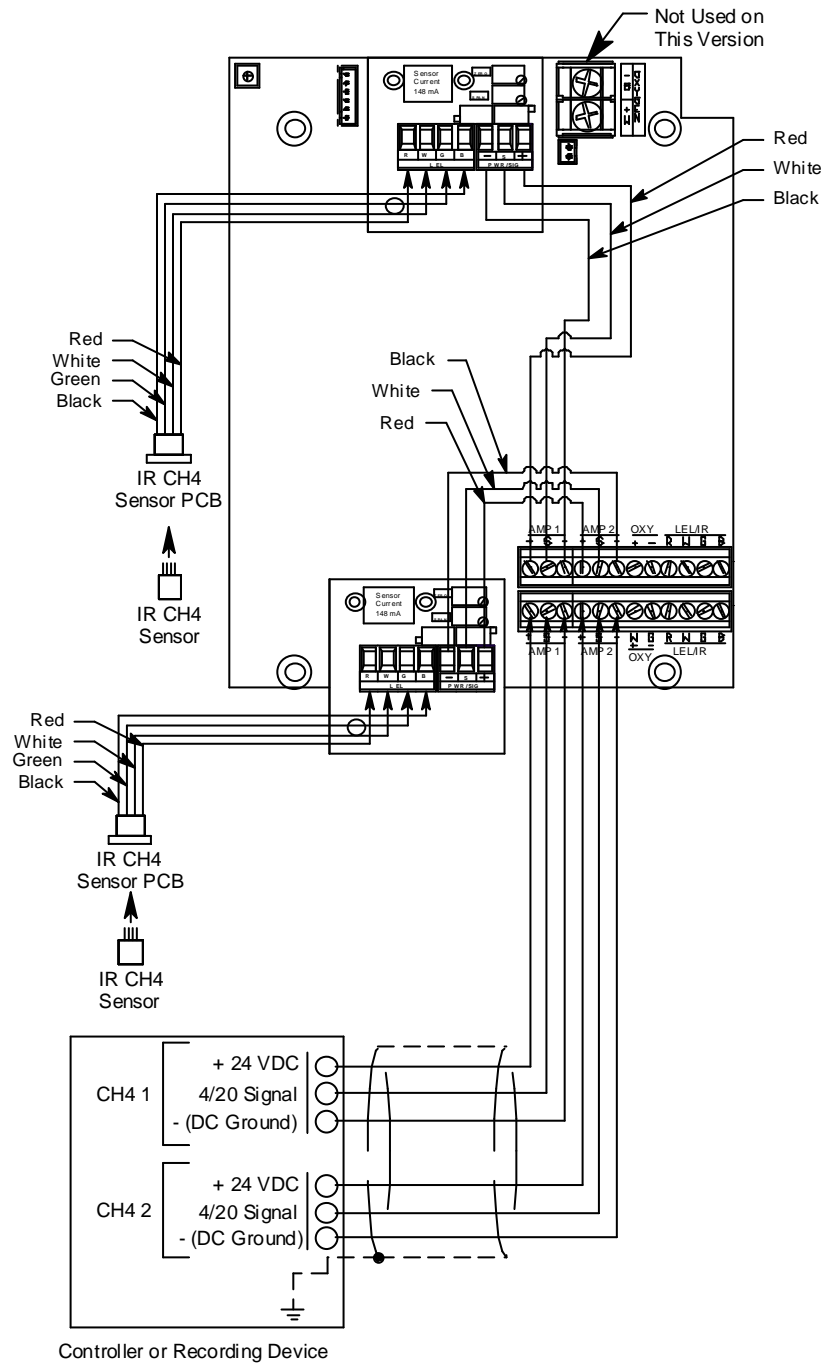

Figure 5: Wiring the Sample-Draw Detector to a Controller
5. Connect the cable to the sample-draw detector’s interconnect terminal strip as shown in Figure 5.
8. Connect the wires to the applicable detector/transmitter terminal strip at the controller as shown in Figure 5. Refer to the controller operator's manual and the controller detector head specification sheet for the 35-3001A-14 for detector/terminal strip connections specific to the controller.